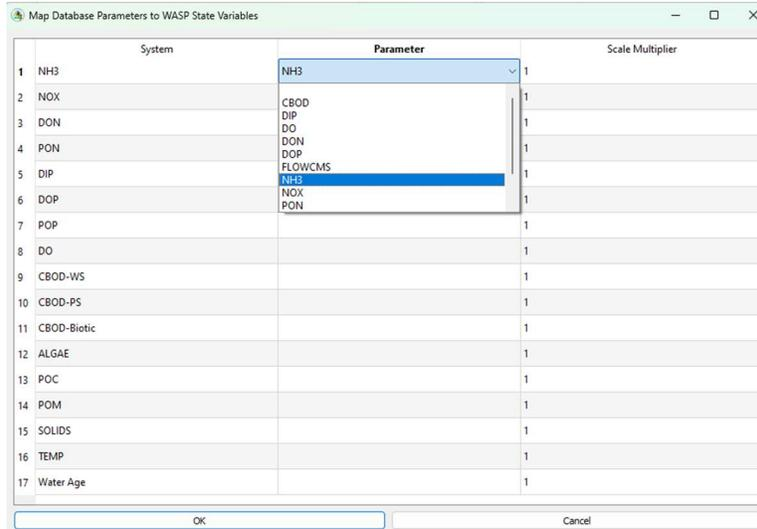

Figure 32 WASP - Database Parameter to Model State Variable Connection
- **Parameters Button:** this button will cause the interface to display the database parameter to model state variable connection (Figure 32)